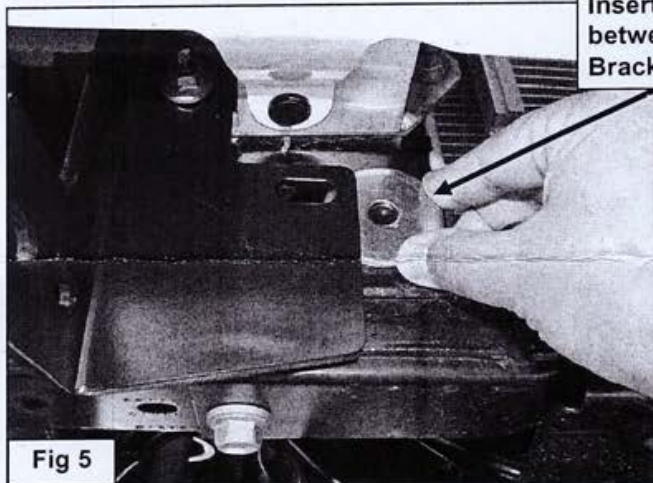

Fig 5
4. Slide (1) Large Spacer Washer between the Mounting Bracket and the frame cross member, (Figures 5 & 6). Insert (1) 10mm x 120mm Hex Bolt with (1) 10mm x 34mm OD Large Flat Washer and (1) Large Spacer Washer into and through the hole in the back of the cross member. Make sure the Spacer Washer is against the cross member covering the large hole, (Figures 7 & 9). Push the long bolt through the outer Spacer Washer and Frame Bracket. Secure the Bracket to the Bolt with (1) 10mm x 34mm Large Flat Washer and (1) 10mm Nylon Lock Nut, (Figures 8 & 9). Leave hardware loose at this time. **NOTE:** Trim plastic splashguards attached to the bottom corners of the bumper as necessary to clear brackets.